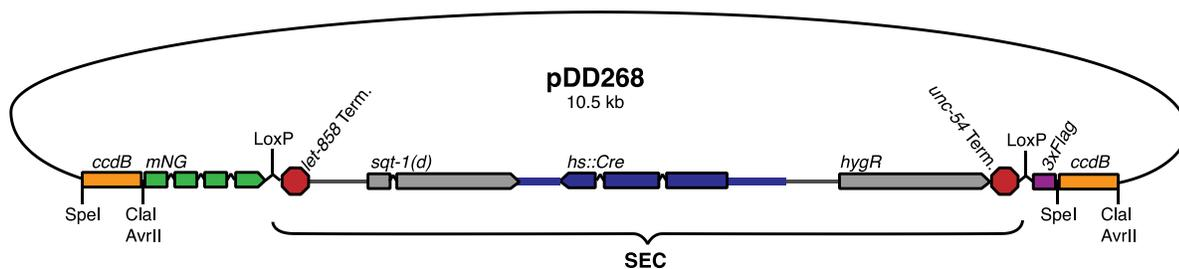

Figure 1: Map of plasmid pDD268 (mNG^{SEC}3xFlag).
In our 2015 paper (Dickinson et al. *Genetics* 2015), we demonstrated the use of a Self-Excising Cassette (SEC) for drug selection to generate custom alleles (especially Fluorescent Protein fusions) in *C. elegans*. We incorporated SEC into a family of fluorescent protein (FP) tagging constructs, including the mNeonGreen (mNG) vector **pDD268** (Figure 1).
- Otherwise, additional mutations are made using synonymous codons so that the amino acid sequence is not altered (Figure 1).